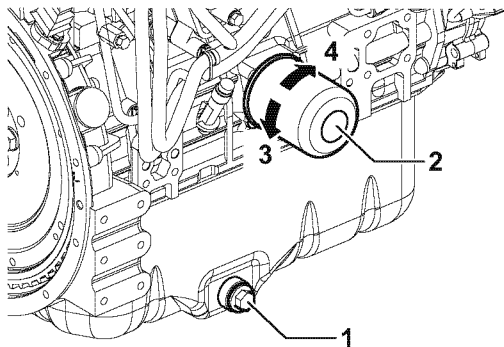

Figure 14
6. Remove the oil drain plug (1, **Figure 14**) from the engine oil pan. Allow lubricating oil to drain.
7. After all lubricating oil has been drained from the engine, reinstall the oil drain plug (1, **Figure 14**) and tighten to 40 - 47 ft-lb (53.9 - 63.7 N·m, 5.5 - 6.5 kgf·m).
1. Turn the engine oil filter (2, **Figure 14**) counterclockwise (3, **Figure 14**) using an oil filter wrench.
3. Lightly coat the gasket on the new oil filter with engine lubricating oil. Install the new engine oil filter manually by turning it clockwise (4, **Figure 14**) until it contacts the mounting surface. Tighten to 14 - 17 ft-lb (19.6 - 23.5 N·m, 2.0 - 2.4 kgf·m) or one additional turn using the oil filter wrench.